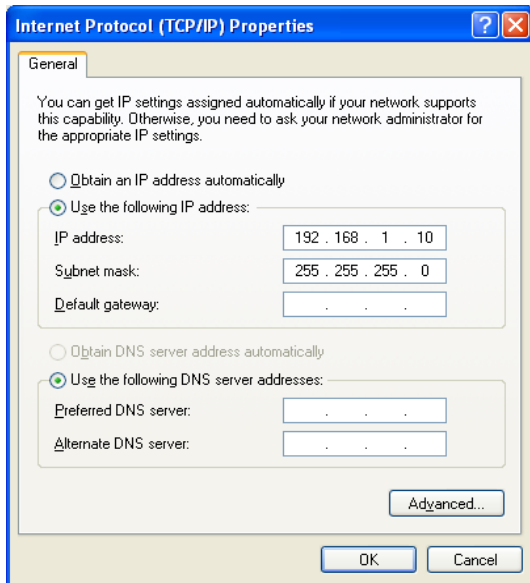

FIG. 11
5. See FIG. 11. Select "Use the following IP address." The default Pump IP address is 192.168.1.100. Enter a number which differs from the default address in only the last set of numbers, for example: 192.168.1.10. This enables the computer to connect to the VFD. Set Subnet mask to 255.255.255.0.